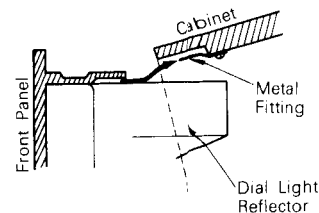

Fig. 8
4. When the cabinet is installed, insert the metal fitting of cabinet (as shown in fig. 8) into the space between the front panel and light reflector.